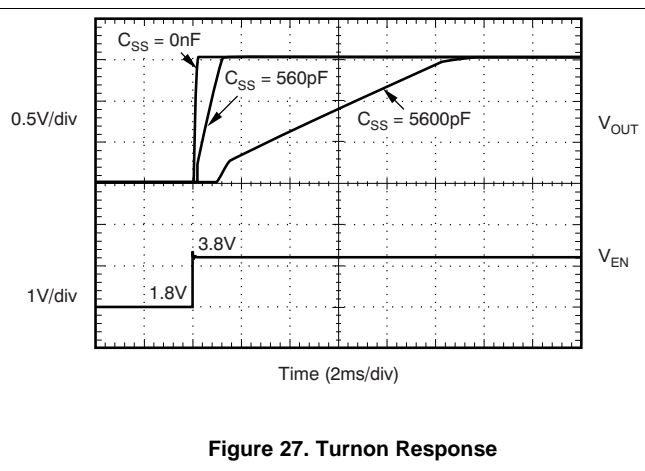

Figure 27. Turnon Response
3. Select a minimum of a 2.2-µF ceramic output capacitor. Increased output capacitance will help the output load transient response. Figure 27 gives examples of the load transient response with different output capacitor values and types.